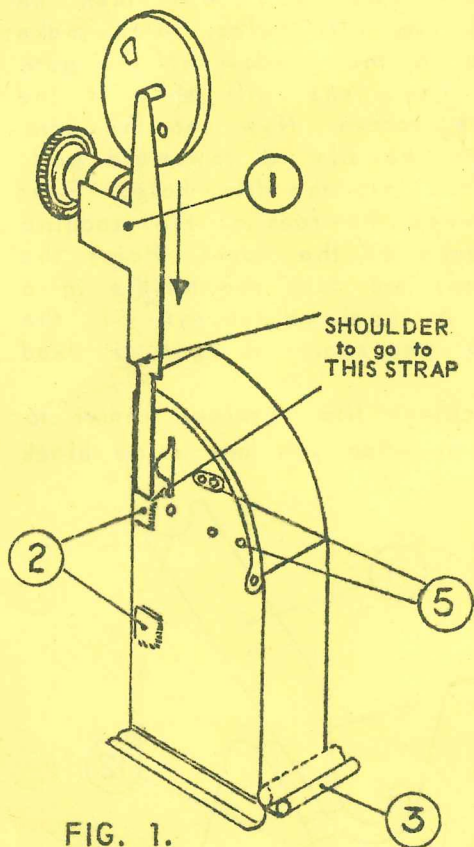

FIG. 1.
Slide out the base of the machine (3) you will see inside a metal channel (4) Put two No.U.2. Dry cells into this channel, one behind the other, with the central contact pointing towards you. - That is the opposite way to which the batteries are usually put in electric torches. **THIS IS MOST IMPORTANT**, otherwise the switch will not work. Now slide the base back. The lamp should then switch OFF when the base is pushed right in, and switch ON when the base is pulled out about 1/2 inch. To operate from mains supply - connect transformer leads to sockets (5). (See FIG 1).